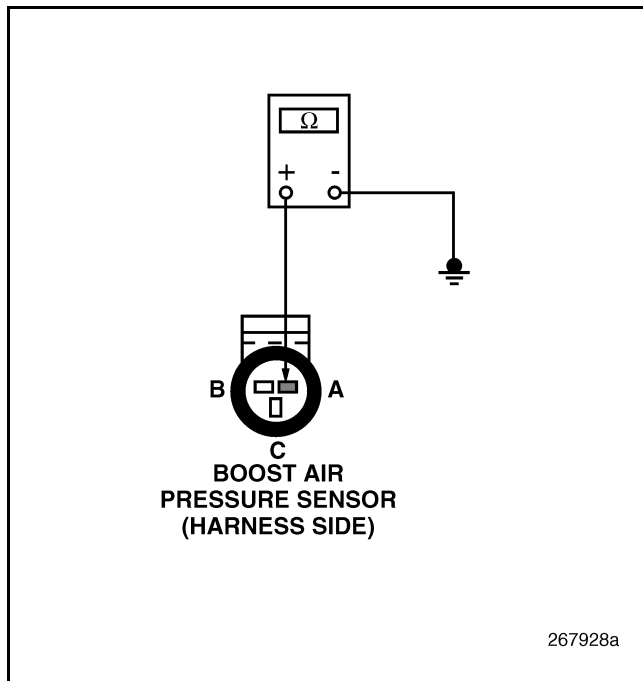

Figure 187
4. Measure the voltage between BAP Sensor harness connector pin A (ground line) and a good ground (see Figure 187).